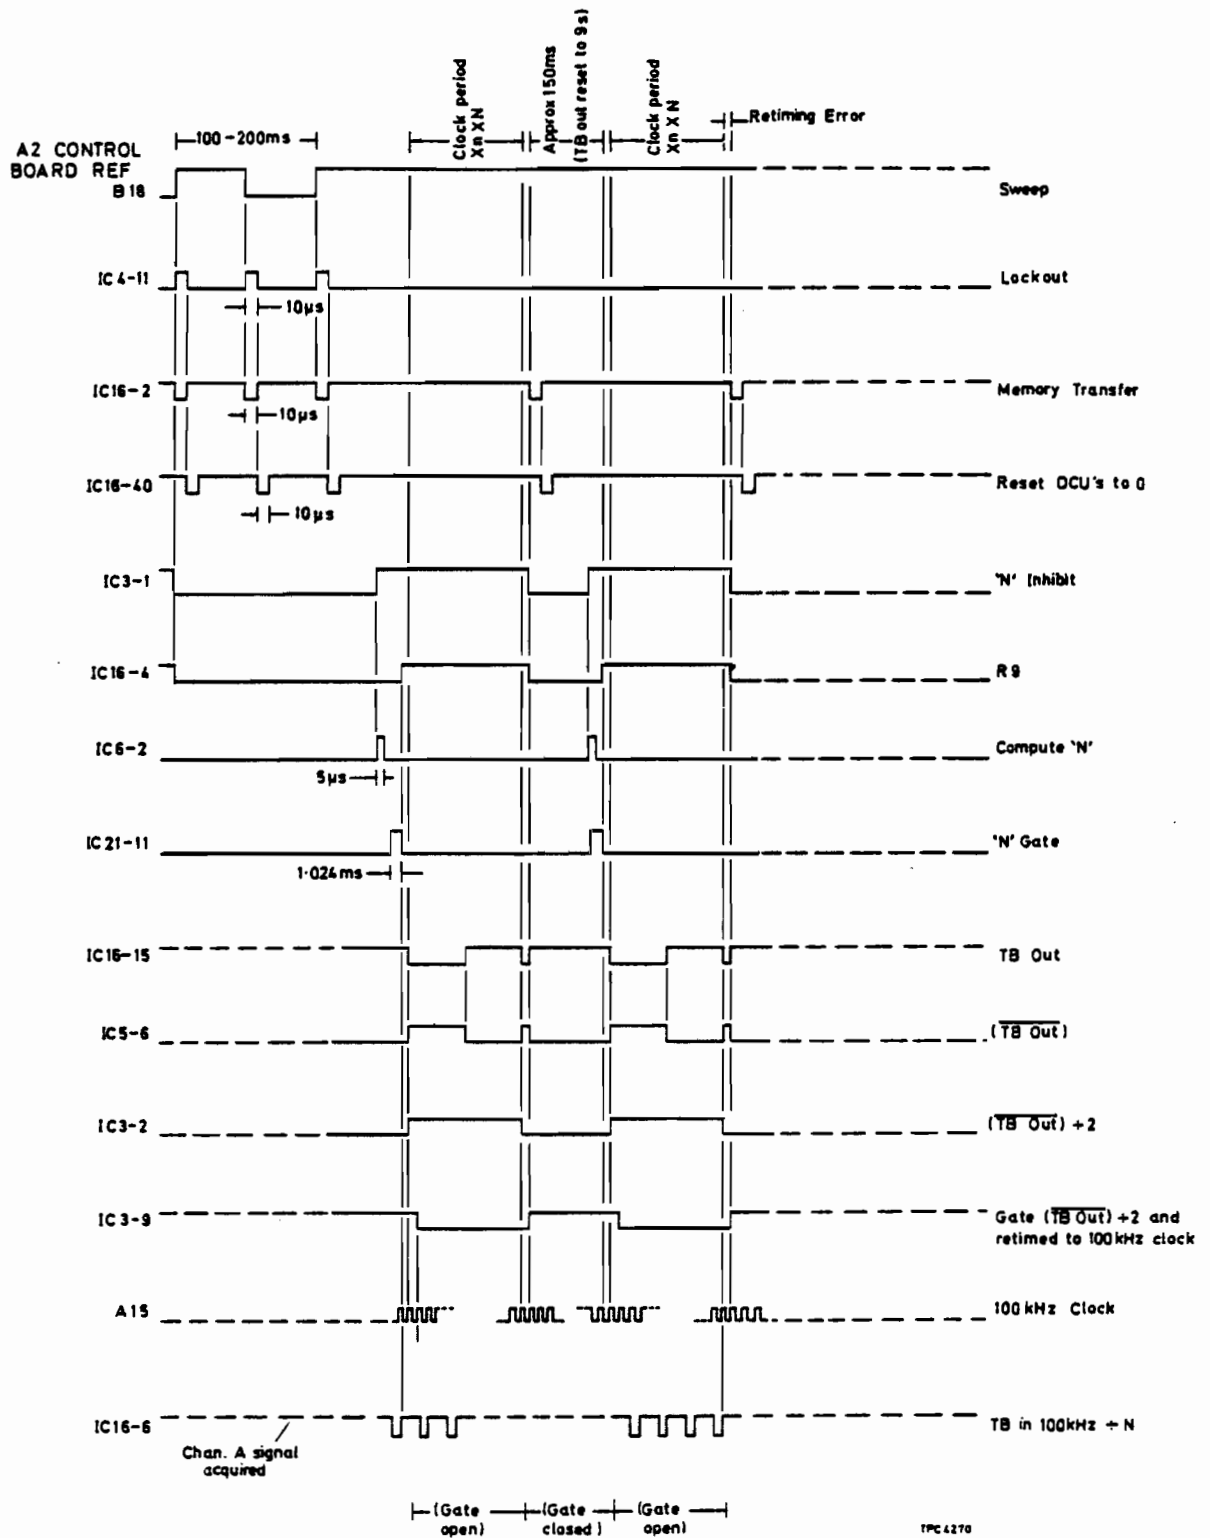

Fig. 5 Channel A timing sequences.
Circuit diagram : Chap. 7, Fig. 5.
Circuit diagram : Chap. 7, Fig. 5
25. Channel A operation requires additional timing waveforms to provide the lock-out sequence (no r.f. input condition) and to compute the 'N' divider for the time base input signal. Waveforms and timing sequences are shown in Fig. 5.